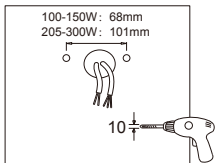

figure 9
1. Drill holes on the wall as shown.(Figure 9)